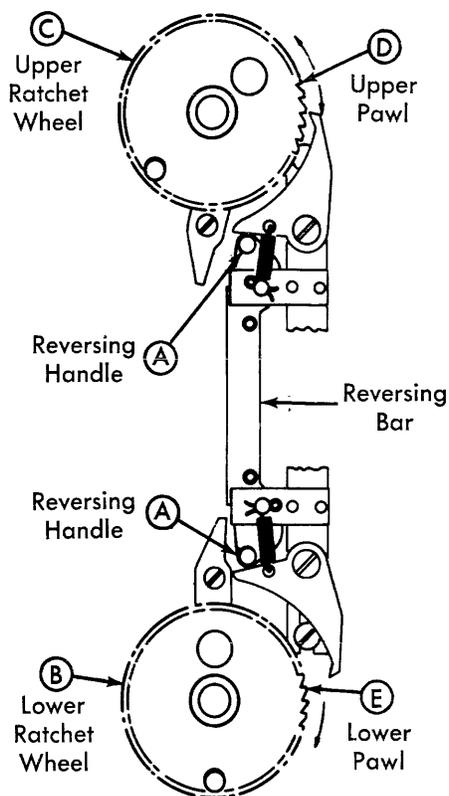

Figure 146. Ribbon Feed Mechanism Schematic
2. Open the front door exposing the ribbon-feed mechanism. (Figure 146 is a labeled schematic of the ribbon mechanism viewed from this position).